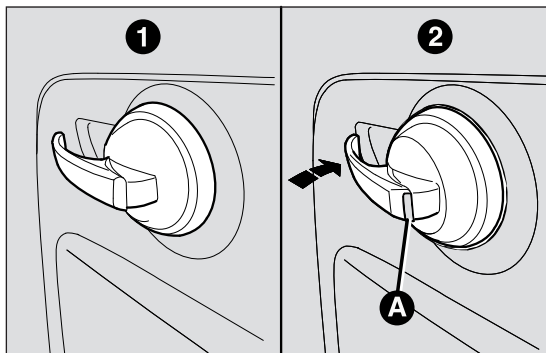

fig. 48
pull the handle. Opening the door is possible only if it has been unlocked from inside bringing the handle to position I fig. 48
**To lock from outside:** with driver's side door completely closed, turn the key to position 2 fig. 48.
It is possible to lock the passenger side door only from inside bringing the handle to position 2 fig. 48.
**To lock/unlock from inside:** use the handles on the door panels fig. 48.
**IMPORTANT** The locked door condition is indicated by the red symbol A fig. 48 on the interior door handle.